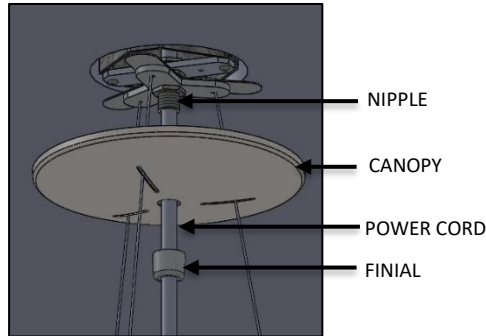

FIG. 26 – CORD INSTALLATION
12. Feed POWER CORD through the center hole in the CANOPY and make secure connection by passing through the NIPPLE (available in mounting bracket assembly) as shown below in FIG. 26.